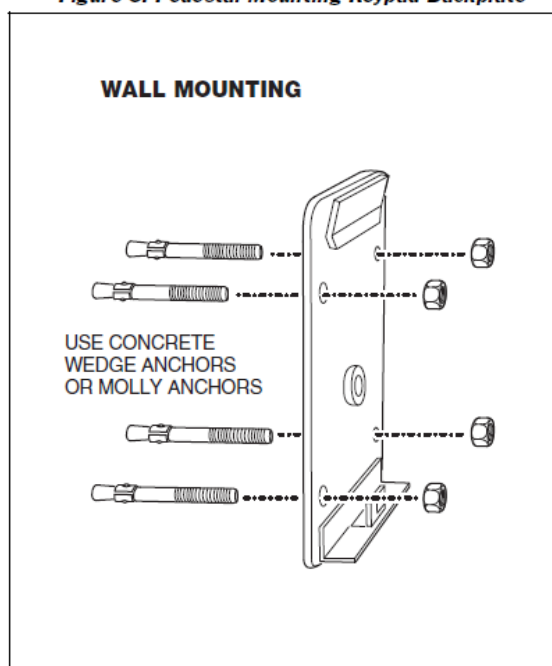

Figure 4. Wall Mounting Keypad Backplate
- When mounting the keypad to a concrete wall, use concrete wedge anchors or molly anchors (see Figure 4).